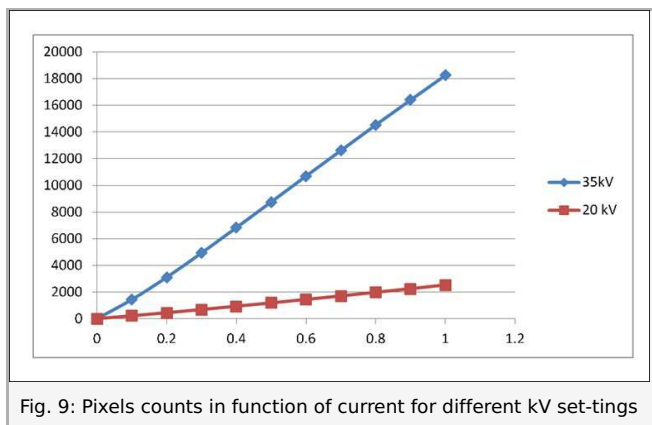

Fig. 9: Pixels counts in function of current for different kV set-tings
- Make a plot of the resulting pixel counts in function of the current (see Fig. 9).